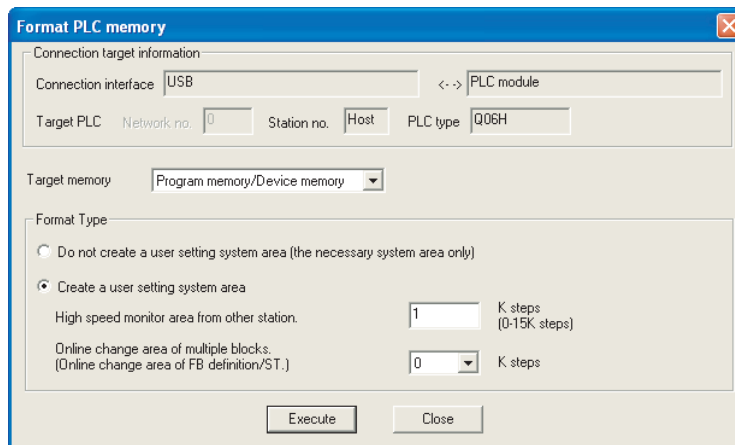

Figure 6.67 System area setting (when 1K step is set)
- Select [Online] → [Format PLC memory] in GX Developer to open the screen shown in Figure 6.67.